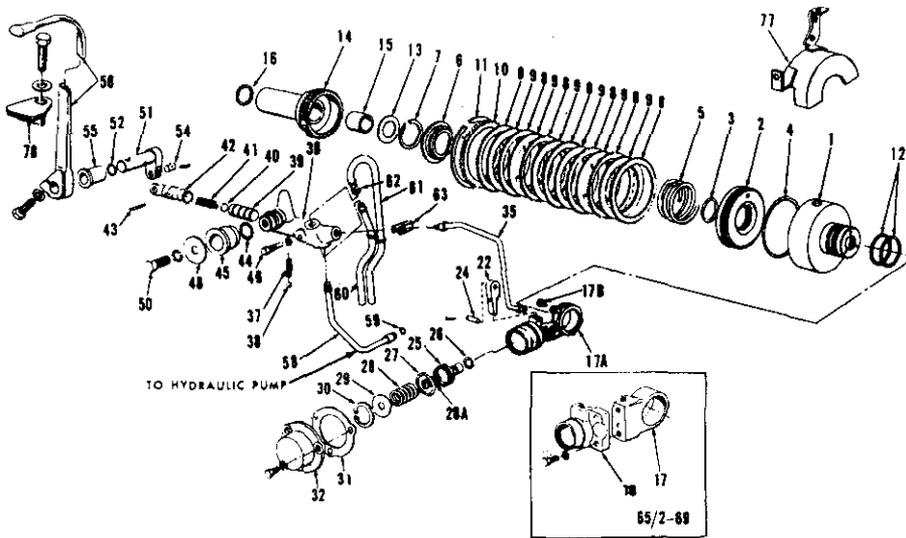
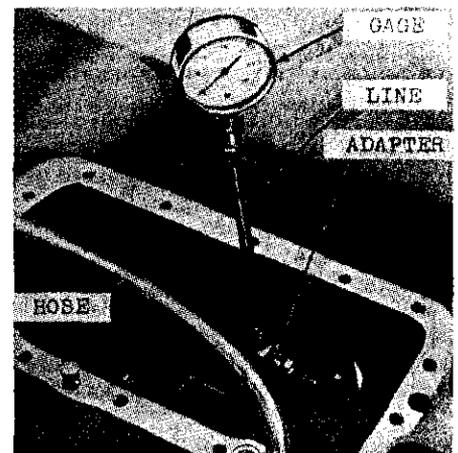
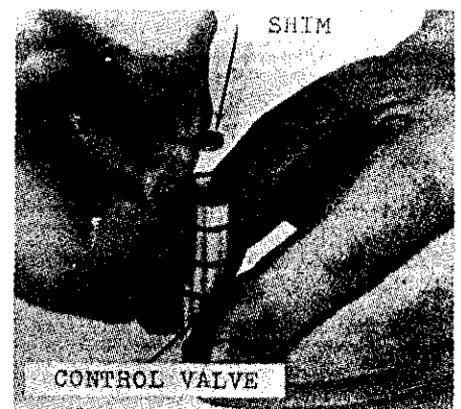
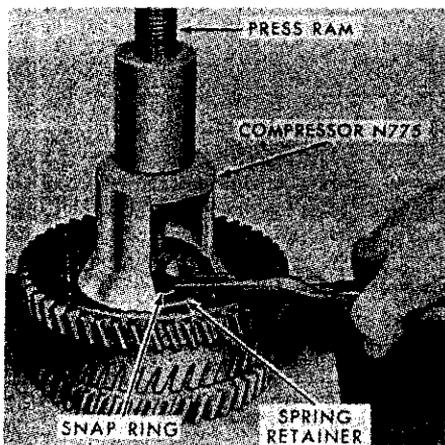

Fig. 357—Exploded view of independent PTO clutch, brake and control valve assemblies for model 4000 tractor.
Fig. 358—View showing pressure gage connected to PTO control valve for checking PTO system relief pressure. Refer to text.
Fig. 359—Placing adjusting shim inside control valve.
Fig. 364—Compressing clutch piston return spring to permit retaining snap ring removal. Select-O-Speed clutch assembly is shown; however, procedure is same.
When PTO control lever is in engaged position, the PTO control valve directs high pressure oil to the clutch piston (2—Fig. 357) which, due to valve design for gradual build-up in hydraulic pressure, gradually applies pressure to the clutch discs to slowly engage (feather) the clutch. At the same time, oil pressure is directed to the brake piston (25) which compresses spring (28) and releases pressure on brake arm (22).
**328. PTO HYDRAULIC PRESSURE CHECK.** To check PTO clutch hydraulic pressure, first operate tractor until rear axle and hydraulic oil is at normal operating temperature. Then, stop tractor and remove the hydraulic lift cover as outlined in paragraph 347. Disconnect the control valve to clutch pressure tube (35—Fig. 357) at the control valve (36) and install a 0-400 psi hydraulic gage in valve assembly as shown in Fig. 358. Connect a tube from hydraulic lift cover feed tube as shown or mount the accessory cover from top of lift cover over tube opening in edge of center housing so that hydraulic pump flow is directed back into hydraulic sump in center housing. Start engine and operate at slightly above low idle speed. Engage and disengage the PTO clutch
several times. Pressure gage reading should be nearly equal each time and within the limits of 175-200 psi. If gage reading is not within limits, remove control valve assembly as outlined in paragraph 329 and add shims (40—Fig. 357) (see Fig. 359 also) to increase pressure. If pressure cannot be increased by adding shims, remove and overhaul the hydraulic lift pump assembly; refer to paragraph 367. If pressure is within limits, but PTO clutch slips under load, remove and overhaul clutch as outlined in paragraphs 330 and 332.
Disconnect the pump to control valve tube (58—Fig. 357) and the control valve to clutch support tube (35) at the control valve ends. Disconnect valve lever (51) from valve plunger (42), then unbolt and remove the valve and exhaust tubes (60 and 61) from center housing as an assembly. Remove the clamp (63) from exhaust tubes and remove the tubes from valve assembly.
To reassemble, insert shims removed in the control valve as shown in Fig. 359, or if a change in operating pressure is necessary (paragraph 328), insert additional shims to increase pressure or less shims to decrease pressure. Shims are available in one thickness (0.030) only. Insert control valve in housing with hollow end out, then insert valve spring inside valve. Place detent spring and ball in housing (see Fig. 361), hold the detent ball down with a pin punch and insert valve plunger in housing. Attach exhaust tubes to valve housing and install the valve and tube assembly with new "O" ring on valve boss.
Connect a hydraulic pressure gage to control valve as shown in Fig. 358 and reconnect pump to control valve pressure line. Check system pressure as outlined in paragraph 328; if pressure is not within limits, remove valve and change number of shims as required. When system pressure is correct, remove pressure gage, reconnect valve to
**NOTE:** It is possible to remove the brake piston (25—Fig. 357) to renew "O" rings (26 & 27) without removing the assembly from transmission. Disconnect the left brake rod, remove cover (32) and using a 3-bolt wheel puller, compress spring (28) as shown in Fig. 362 and remove the snap ring (30—Fig. 357). Then, remove pullers, washer (29), spring (28) and piston (25). Reinstall by reversing removal procedure.
Disconnect left wheel brake link from cross shaft through center housing and right wheel brake link from brake pedal, remove the brake pedals from cross shaft and withdraw the shaft and clutch pedal from center housing. Unbolt and remove the clutch shroud (77—Fig. 357) and disconnect the pressure lines (35 and 58) from control valve and clutch support. Remove the PTO brake cover (32) from outside of center housing, then lift the clutch and brake assembly from center housing.
**332. OVERHAUL P.T.O. CLUTCH AND BRAKE ASSEMBLY.** With the clutch and brake assembly removed as outlined in paragraph 330, refer to exploded view of unit in Fig. 357 and proceed as follows:
**NOTE:** Beginning with production date of March 1969, a one-piece support and brake housing assembly (17A—Fig. 357) replaced the two-piece assembly (17 and 18) used on earlier models. A different service procedure should be used with the one-piece support assembly as outlined in the following paragraphs.
Remove the cast iron rings (12) from rear hub of clutch housing. Remove snap ring (11), clutch pressure plate (10) and clutch discs (8 and 9). Place clutch housing in press and using Select-O-Speed transmission clutch spring compressor (Nuday tool No. N775) as shown in Fig. 364, compress clutch spring (5—Fig. 357) and remove snap ring (7). Gradually release spring, then remove the compressor tool, retaining washer (6) and spring. Apply air pressure to port in rear hub of housing to remove clutch piston (2), then remove sealing rings (3 and 4) from piston.
**NOTE:** The P.T.O. output shaft can be removed as outlined in the following paragraph. However, it is likely that the thrust washer (13—Fig. 357) located between the hub of the clutch housing (1) and the clutch shaft (14) will drop down preventing the P.T.O. shaft from entering the bushing (15) in clutch shaft when reinstalling shaft. For that reason, the procedure outlined in paragraph 335 includes splitting the tractor between transmission and rear axle center housing so that the washer can be lifted up and held in position from the front while inserting output shaft from rear.
335. To reinstall PTO output shaft assembly, proceed as follows: Split tractor between transmission and rear axle center housing as outlined in paragraph 299. Insert a long screwdriver or similar tool through front end of clutch shaft (14—Fig. 357) and lift thrust washer (13) up even with bore in bushing (15) while inserting PTO shaft from rear. If assistance is not available, use heavy grease to hold thrust washer in position, then install the PTO shaft. Install support plate with new gasket, tighten large cap screws to a torque of 175-200 Ft.-Lbs., then tighten small cap screws to a torque of 35-47 Ft.-Lbs. Reconnect check chains to support plate and rejoin transmission to rear axle center housing as outlined in paragraph 299.
Fig. 365—Exploded view of model 4000 independent type PTO output shaft assembly. Front end of output shaft (10) is carried in bushing (15—Fig. 357) in PTO clutch shaft (14).